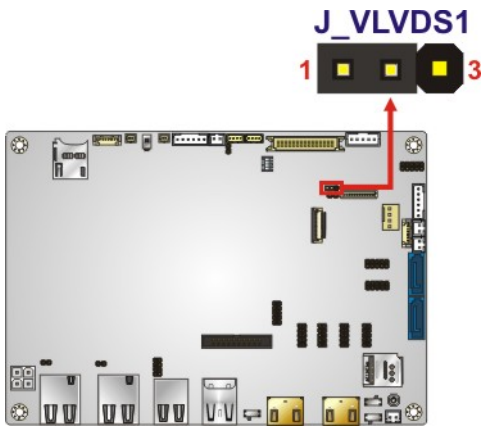

Figure 4-18: LVDS Voltage Selection Jumper Location
- Jumper Location:**See Figure 4-18